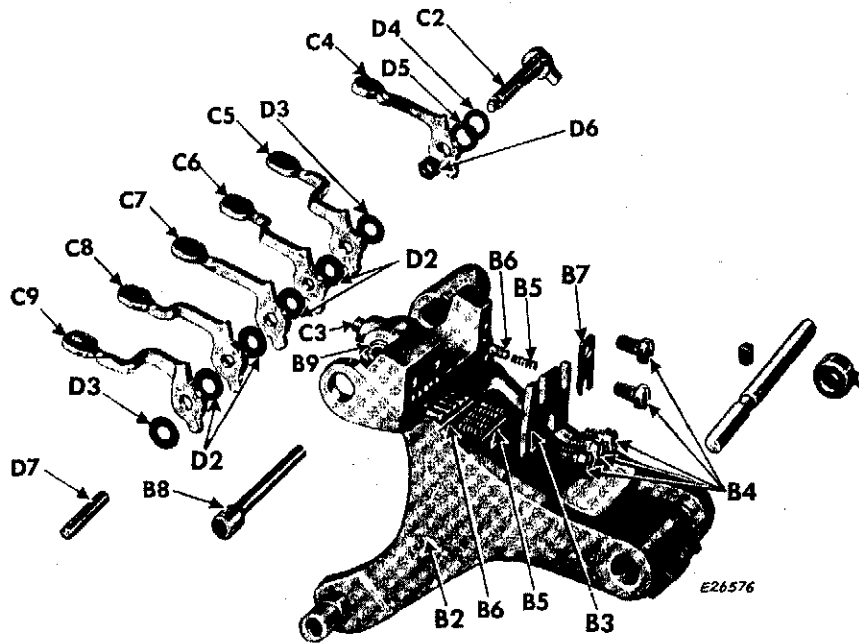

Fig. 252
2. Pre-assemble selector levers with washers on Guide Pin (Tool No. T4346) **D7**, in the order given in **Fig. 252**.
3. Place the pre-assembled disc selectors into the space in front of stud spring **B9**, **Fig. 252**.
8. Insert disc selector stud **C2** into follower frame, then mount spacing washer **D4** and friction washer **D5** on end of stud as illustrated in **Fig. 252**.